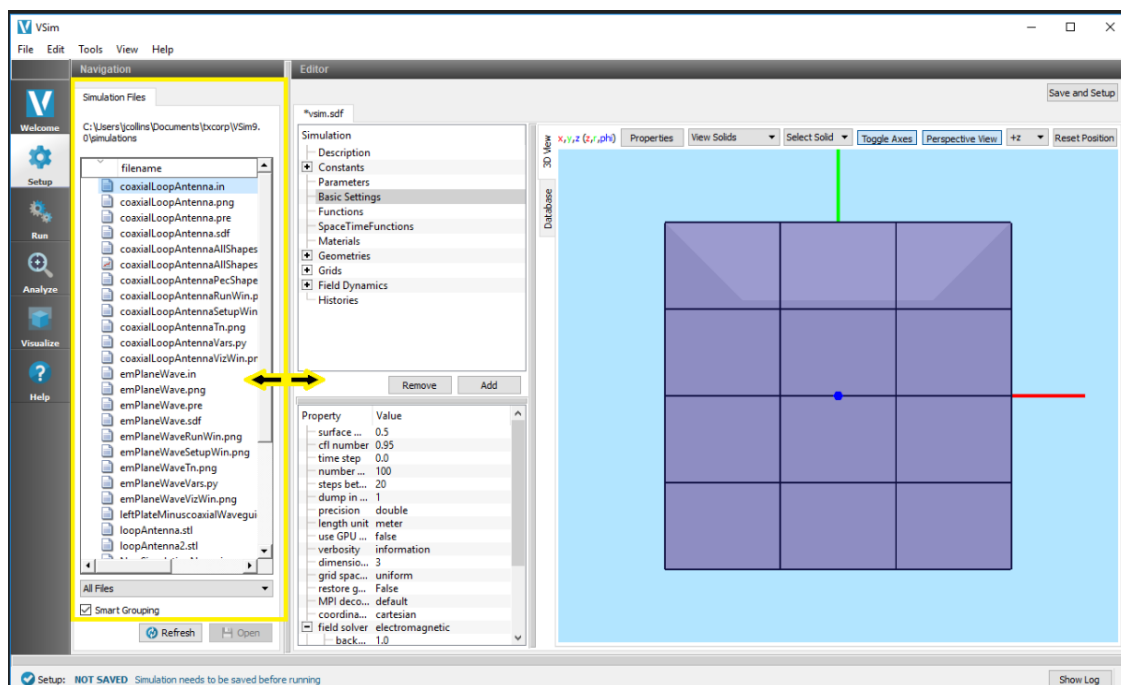

Fig. 8.1: The Navigation Pane
**Note:** A *Navigation Pane* can be shown by clicking and dragging on the vertical bar separating the *Icon panel* from the *Editor* pane. See Fig. 8.1.